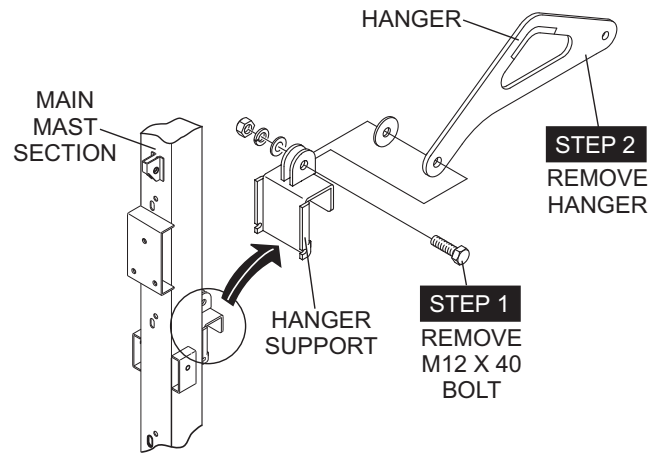

Figure 31. Removing the Hanger
1. Remove the M12 x 40 bolt (Figure 31) from the hanger support assembly, then remove the hanger. Set hanger aside in a safe place where it will not get damaged.
1. Reinstall the M12 x 40 bolt (Figure 31) that supports the hanger onto the main mast. Tighten bolt between 28~ 38 ft-lbs. (38 ~ 51 N-m).